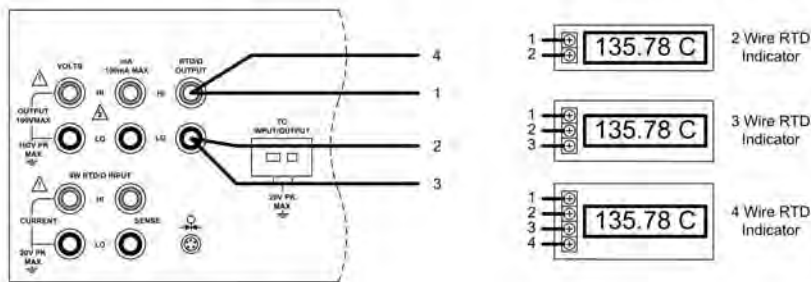

Figure 27 - RTD Indicator Application
3. Connect the indicator as shown in figure 27.